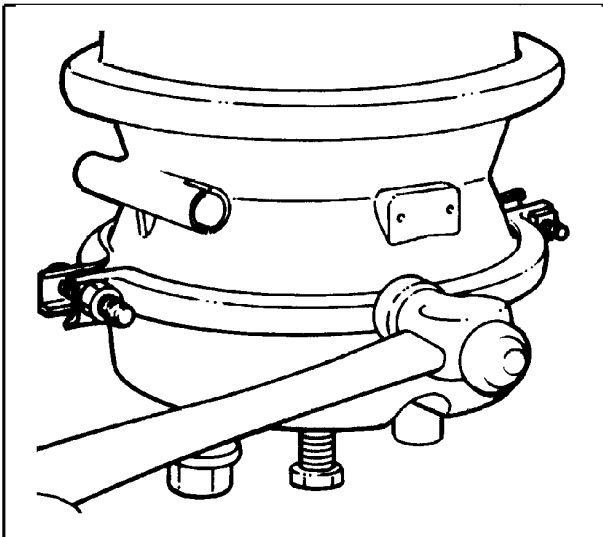
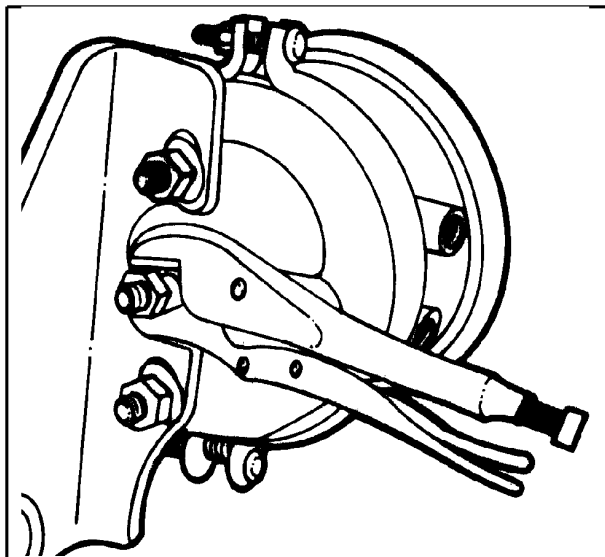

Figure 17 Tap Clamp Ring
Figure 18 Vise Grip Pliers Applied To Piston Rod
IMPORTANT – If the service brake clamp ring was loosened to reposition air inlet ports, apply air to the spring brake and then apply and hold foot brake treadle valve down to charge the service brake chamber. Test for air leaks around the circumference of the service clamp ring. If bubbles appear, firmly tap the circumference of the clamp ring with a hammer (Figure 17(See Figure 17, page 14)) and retighten the clamp nuts until leaks cease. Tighten the clamp nuts to 25 to 30 ft-lbs. (34 to 41 N•m) torque. Completely exhaust air from service brake chamber when complete.
The removal and installation of the service brake diaphragm can be made easier by “locking off” the service chamber piston. To do this apply the service brake by applying the driver's foot brake treadle valve and, while applied, clamp vise grip pliers on piston rod to prevent rod from retracting when air pressure is released (Figure 18(See Figure 18, page 15)).
6. Re-install the clamp ring bolts and nuts. **Alternately tighten each nut in 5 to 10 ft-lbs. (7 to 14 N•m) torque increments** while constantly rechecking mating parts alignment. (If re-alignment is required, loosen clamp ring nuts and repeat step 5 above.) Firmly tap around circumference of the clamp ring with a hammer to assure the full seating of the clamp ring (Figure 17(See Figure 17, page 14)) and **tighten the nuts to 25 to 30 ft-lbs. (34 to 41 N•m) torque.**
IMPORTANT – At this time, remove the vise grip pliers (Figure 18(See Figure 18, page 15)) from the service piston rod so that the piston can return to a normal position in the chamber. Now test for air leaks around the circumference of the service brake clamp ring. If bubbles appear, firmly tap the circumference of the clamp ring with a hammer and retighten the clamp ring nuts until leaks cease (Figure 17(See Figure 17, page 14)). Tighten the clamp nuts to 25 to 30 ft-lbs. (34 to 41 N•m) torque.
| None | Clamp Ring Nuts (Figure 17) | 25 to 30 Ft-lbs. | 34 to 41 |